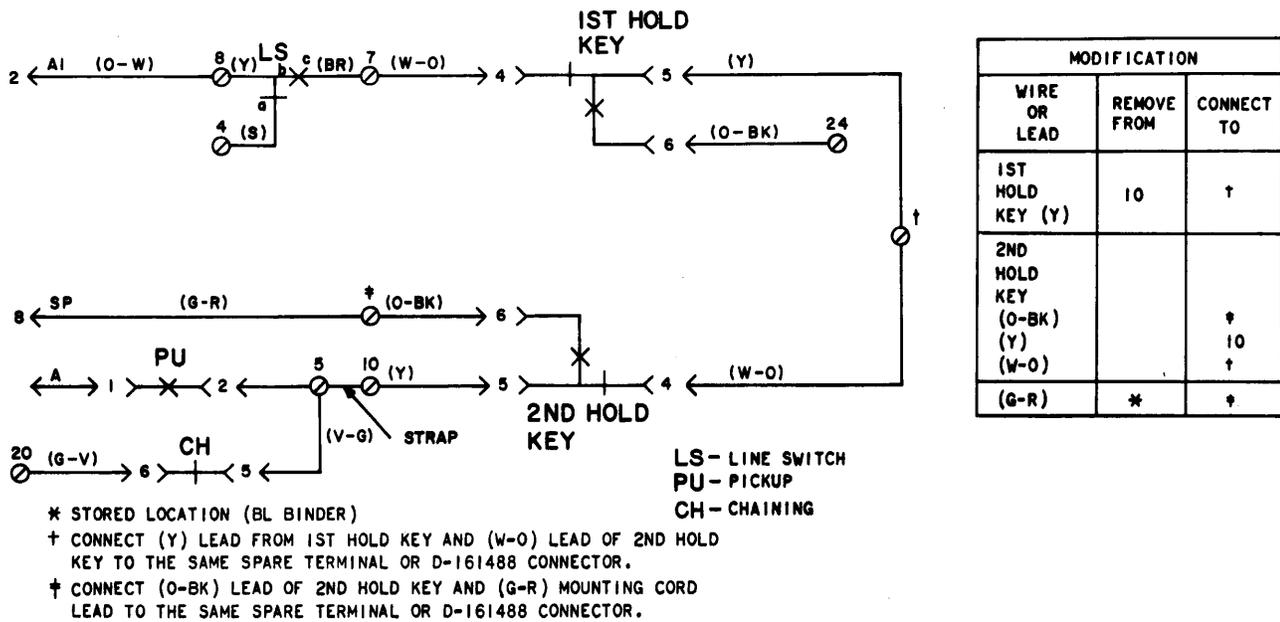

Fig. 6—Modification for Priority Hold
(3) Place the pink plug assembly from the kit of parts into the hold position on the 635A5C key. Insulate and store the white set plug. Place remaining set plugs into their proper positions on the key.
(4) Make the necessary wiring connections and modifications as shown in Fig. 6.♦